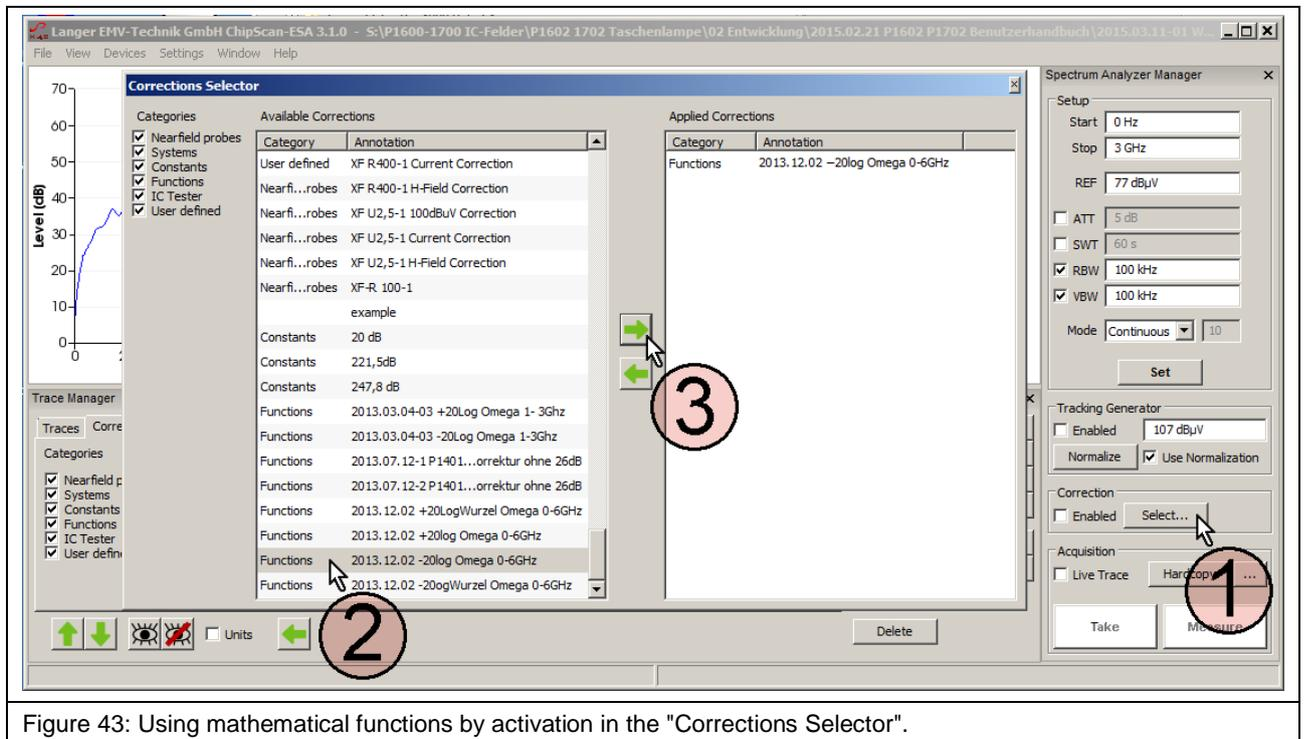
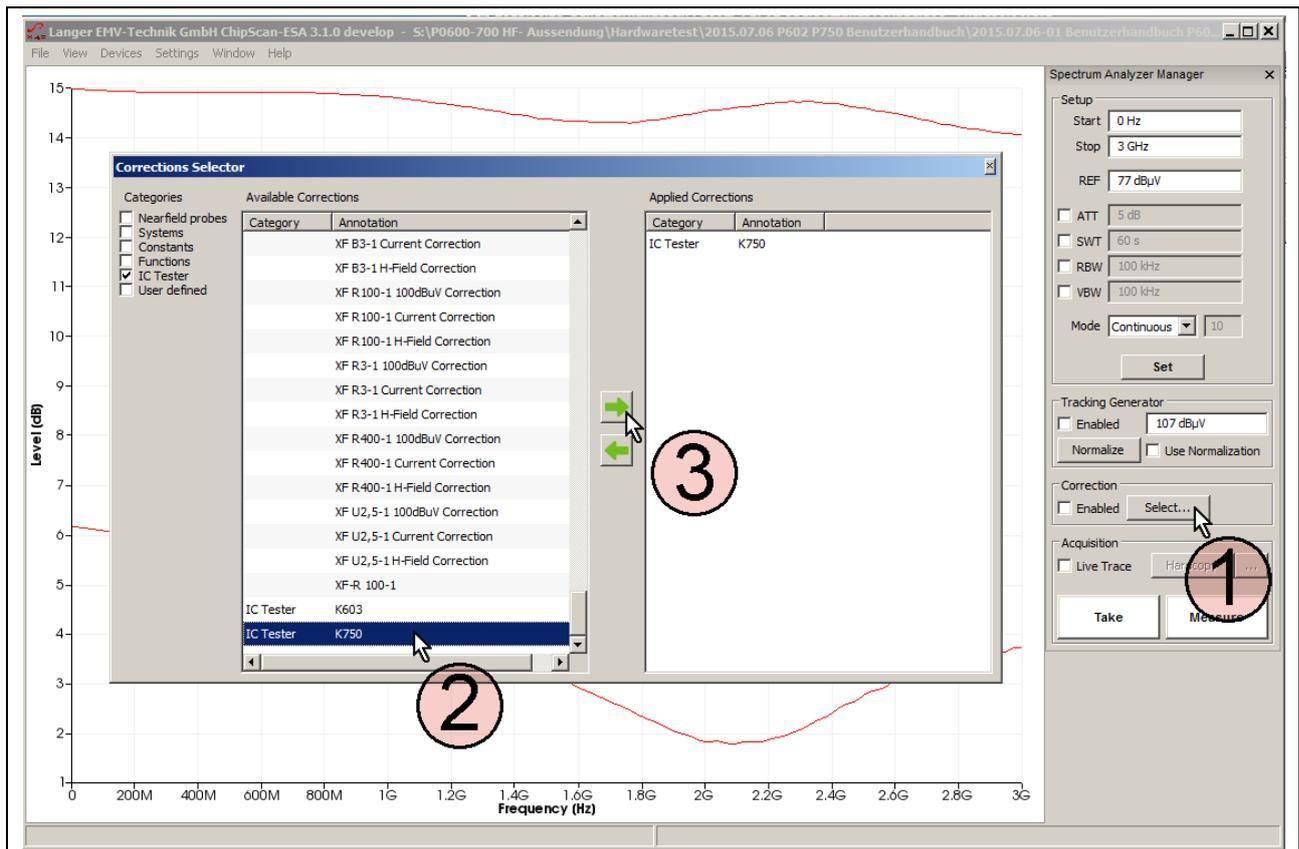

Figure 43: Using mathematical functions by activation in the "Corrections Selector".
Figure 44: Loading the correction curves K750 to the "Corrections Selector".
Mathematical functions can also be used (**Figure 43**): division by  $\omega$  in the time domain, for example. This corresponds to a subtraction of  $20 \text{ Log } \omega$  in the logarithmic form.
Click the "Select" button (mouse cursor ① **Figure 43**) under "Correction" in the "Spectrum Analyzer Manager" to select the respective correction curve.
The "Corrections Selector" window opens **Figure 43**. Click and activate the correction curve  $-20 \text{ Log } \omega$  with the mouse cursor ②. Click the "Arrow right" ③ button to move the correction curve to the "Applied Corrections" list. Other correction factors and correction curves (**Figure 44**) such as K603 or K750 can be loaded in the same way or selectively (**Figure 44**).